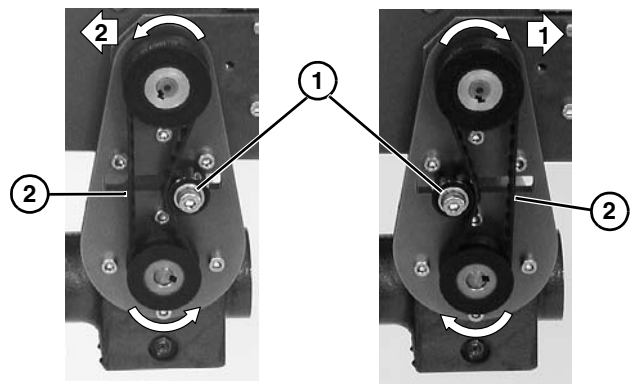

Figure 21
5. Depending on direction of conveyor belt travel (1 or 2 of Figure 21), position belt tensioner (Figure 21, item 1) as shown. Tension belt to obtain .125" (3 mm) deflection for 1.0 lb (456 grams) of force at belt mid-point (Figure 21, item 2). Tighten tensioner screw to 103 in-lb (12 Nm).